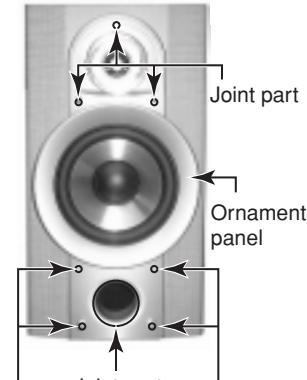
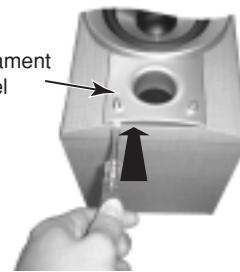

Fig.2
Fig.4
2. A minus driver is inserted in the space between the ornament panel and the cabinet in the bottom part of the main body little by little. (See Fig.4) 3. A minus driver is inserted in a surrounding round of the ornament panel little by little, and the ornament panel is removed. (See Fig.2)